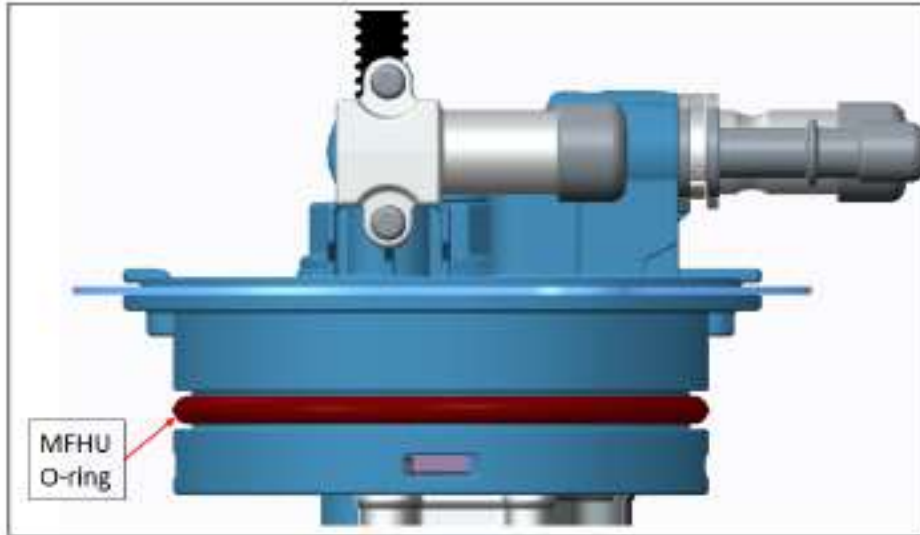

Figure 11: Apply lubricant onto the MFHU O-ring.
17. Now, apply a thin layer of O-ring lubricant to the MFHU O-ring, per Figure 11 below.